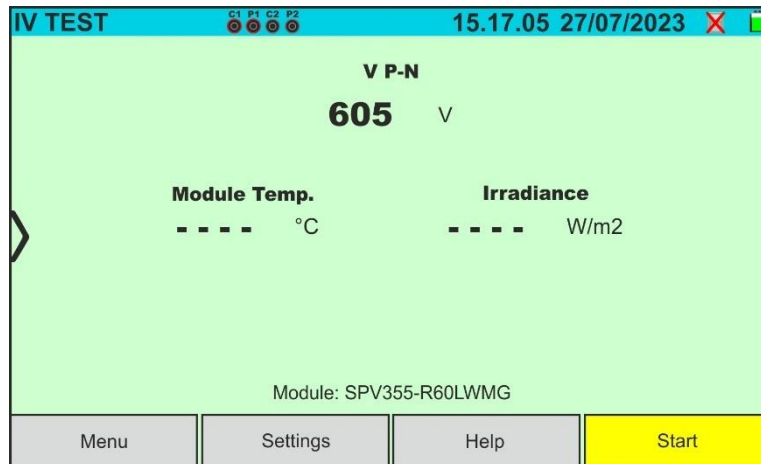

Fig. 35: Initial I-V test screen without remote unit on Monofacial modules
4. In the case of **Monofacial** modules, the screen of Fig. 35 is shown on the display. The following parameters are indicated: